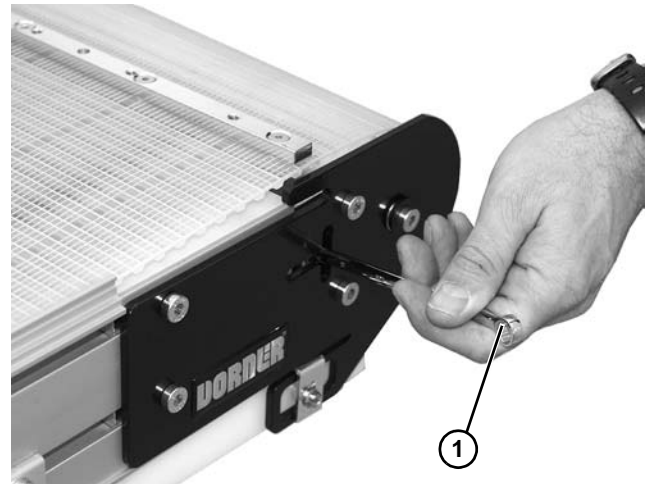
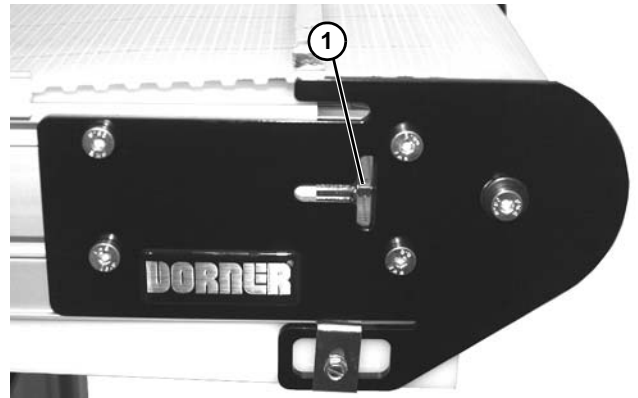

Figure 30
Figure 31
3. With the conveyor running, use wrench (**Figure 30, item 1**) to rotate the tracking screw (**Figure 31, item 2**) in small increments until the belt tracks in the center of the conveyor.